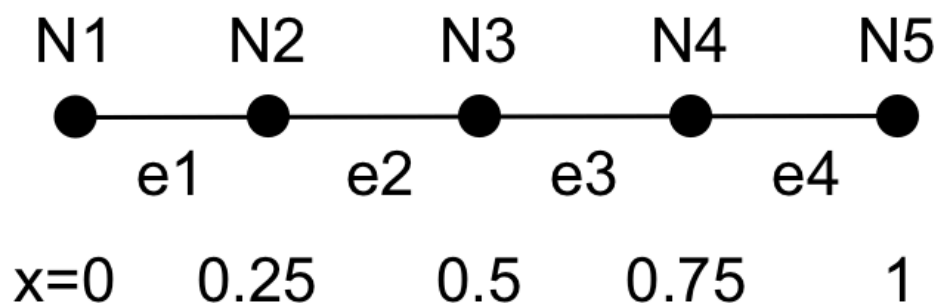

Figure 1: Equispaced, 4-element mesh between $x=0$ and $x=1$.
- Run your code for the four element mesh shown in Figure 1, for the case of two Dirichlet boundary conditions: